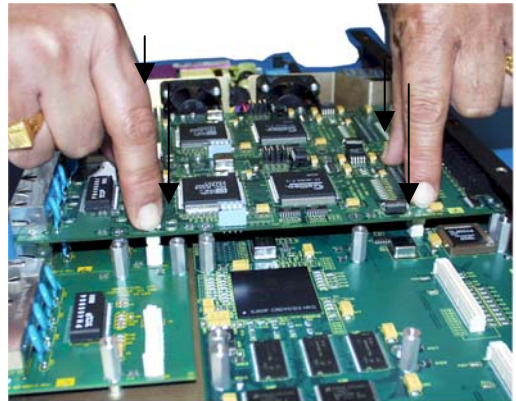

Figure 3.5.2f: Securely latching up 6KPM Cards into a Magnum 6K25
- Step 5.** Once the latching connectors are aligned properly and the mounting holes are aligned with stand offs then press slowly and firmly with two fingers (as shown below in Fig. 3.5.2f) on the top of the latching connectors until the connectors latched up securely.